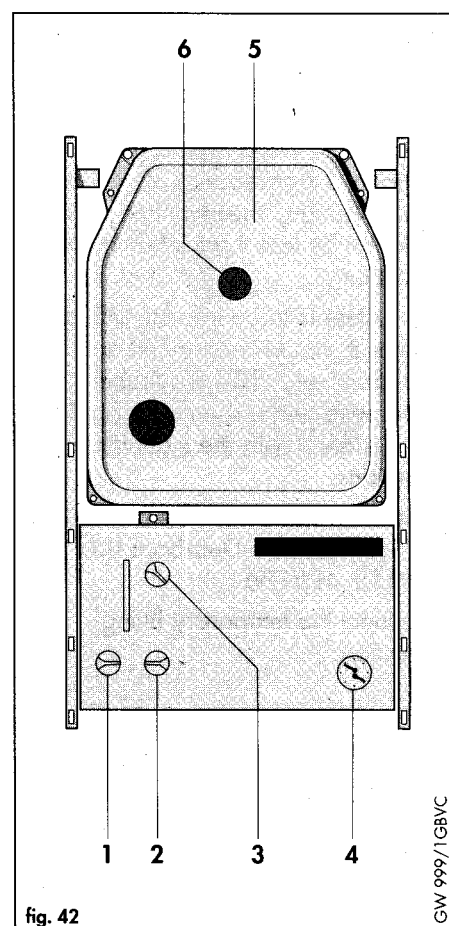

fig. 42
Set the boiler flow temperature control (3, fig. 42) to the desired setting. The following settings may be used as a guide:
**Note:** The boiler is fitted with a combustion analysis test point (6, fig. 42). A suitable combustion analyser can be connected to this point to establish the combustion performance of the boiler.
Operate the boiler by turning on all external controls and turning the on/off control (1, fig. 42) to the 'on' position (I). Inspect the burner operation through the viewing window. Check that the flames are burning evenly over the full surface of the burner. Inspect for signs of excessive lifting or sooting.
### 6.2.3 Remove combustion chamber front cover (5, fig. 42)